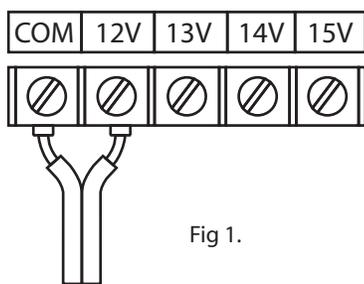

Fig 1.
4. Push the bare wires under the terminal screws on the terminal block and tighten the screws securely. (See Fig. 1 and the following instructions to select desired voltage output.)